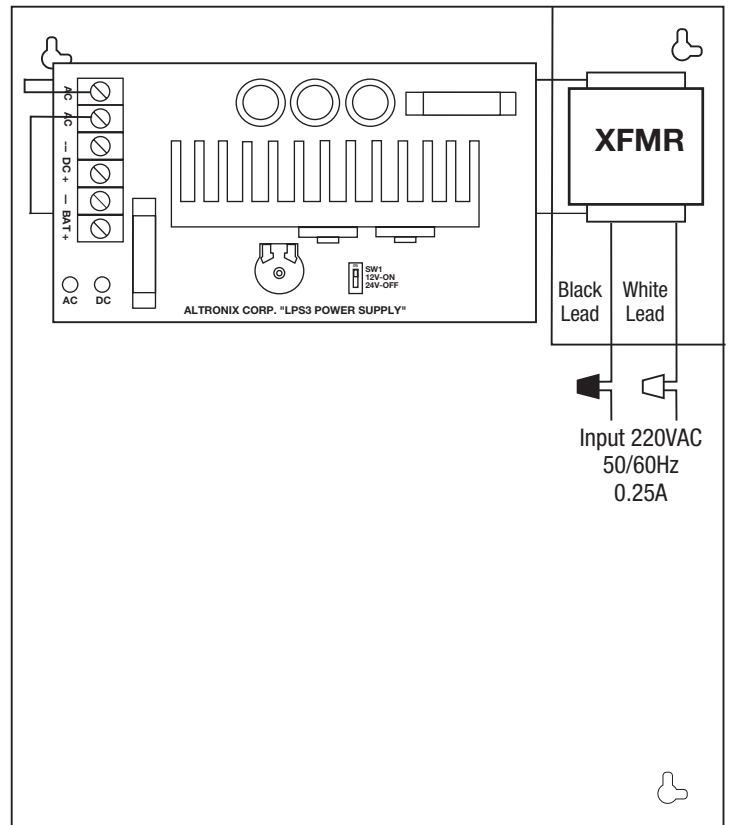

Fig. 1
2. Connect AC power to the black and white flying leads of the transformer (Fig. 1). Use 18 AWG or larger for all power connections (Battery, DC output).
4. Connect devices to be powered to the terminals marked [- DC +] (Fig. 1).
5. Connect battery to the terminals marked [- BAT +] (Fig. 1) on the unit (battery leads included).